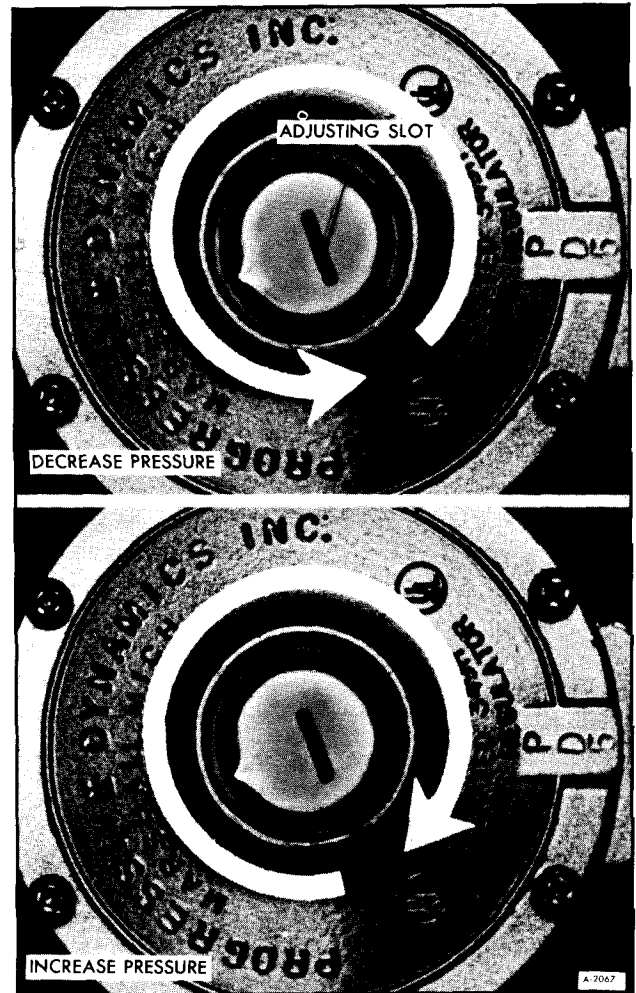

Figure 3-Regulator Adjustment
4. Turn the adjusting slot clockwise to increase the pressure and counter-clockwise to decrease the pressure (See figure 3).